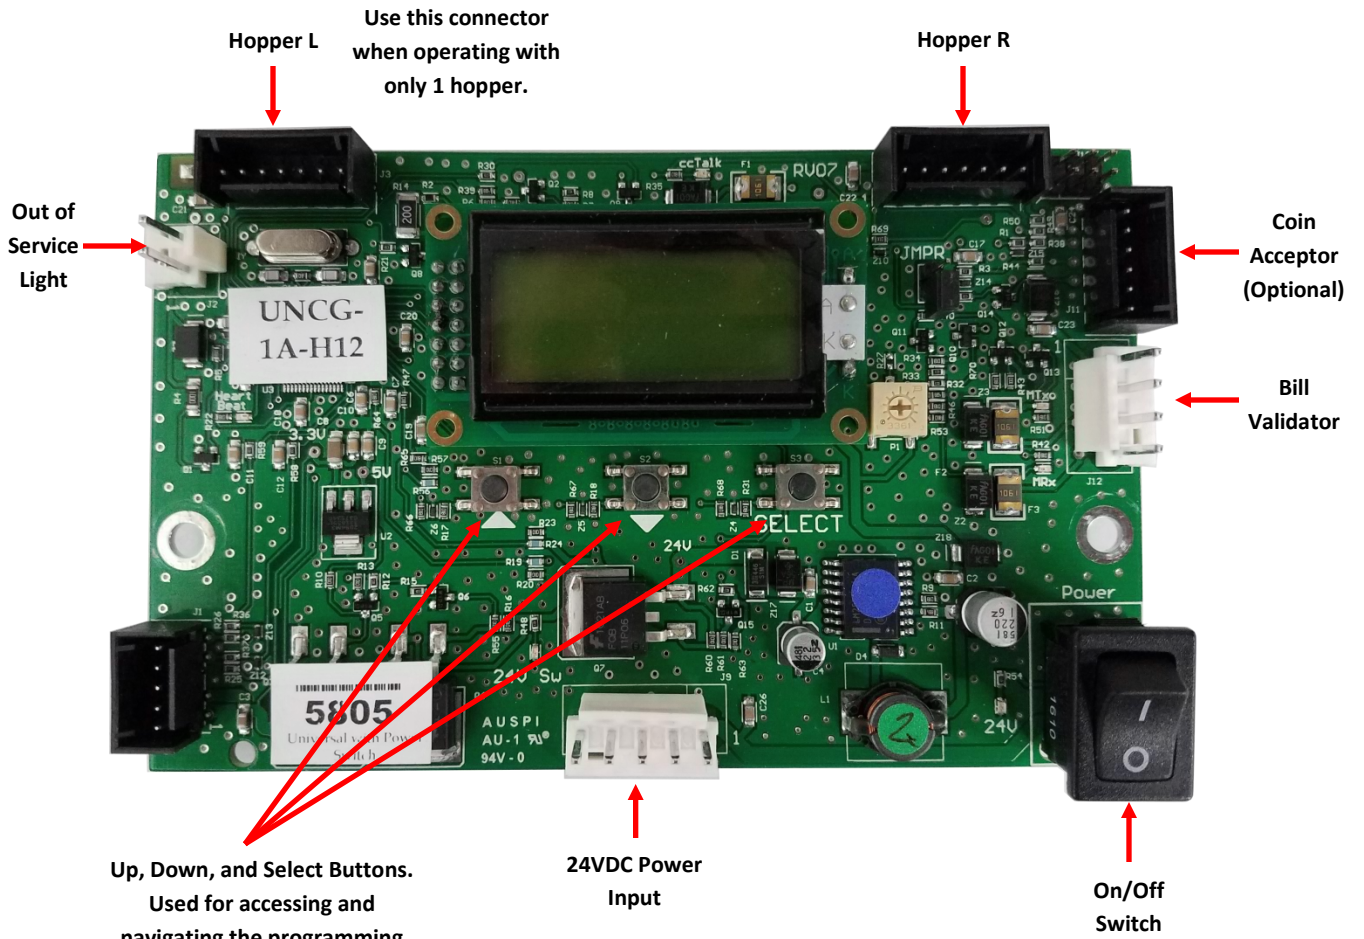

Figure 3
To enter the programming menu, begin by pressing the “Select” button on the Universal main logic board. Refer to Figure 3.
cctalk – Select ccTalk if using one or more hoppers with a ccTalk serial interface to the Universal Board. Once selected, enter the number of ccTalk hoppers – one or two – to be used in the changer. *Note: Each Logic Board has the capacity to control two ccTalk hoppers, left and right; but, if only one is used, it must be plugged into the left-side connector (see Figure 3 for the ccTalk device connections.) If your model changer has two Logic Boards and two hoppers, then only one hopper will be controlled by each board; select '1' as the number of ccTalk hoppers on both boards.*
cctalk – This option should be selected if the installed coin acceptor communicates with the Universal Board using ccTalk serial communication protocol (see Figure 3 for the ccTalk device connections .) After choosing ccTalk, the program prompts for specification of the currency type that will be processed by the coin acceptor. Choose either US or Canadian coins.
Pulse – If the installed coin acceptor communicates with the Universal Board using pulse protocol, select ‘Pulse’. Following this, the program will request specification of the logic level used to enable the coin acceptor, high “Hi” or low “Lo”. Pulse coin acceptors provided by American Changer use the “Hi” setting. *Note: The Logic Board can only control one pulse device; if a pulse validator is installed, a pulse coin acceptor cannot be* (see Figure 3 for the pulse device connection on the Universal Board).
MDB: Select ‘MDB,’ and then enter how many MDB validators are installed in the changer – either one (1) or zero (None!). (See Figure 3 for the MDB validator connection on the Universal Board.)
Pulse: Select ‘Pulse,’ and then choose either one (1) or zero (None!) to specify the number of pulse validators that are inside the unit. If ‘1’ is chosen, then the program will further prompt for whether the validator is enabled using a logic-high (Hi) or a logic-low (Lo) signal; either must be chosen. *Note: The Logic Board can only control one pulse device; if a pulse coin acceptor is installed, a pulse validator cannot be.* (See Figure 3 for the pulse device connection on the Universal Board.)